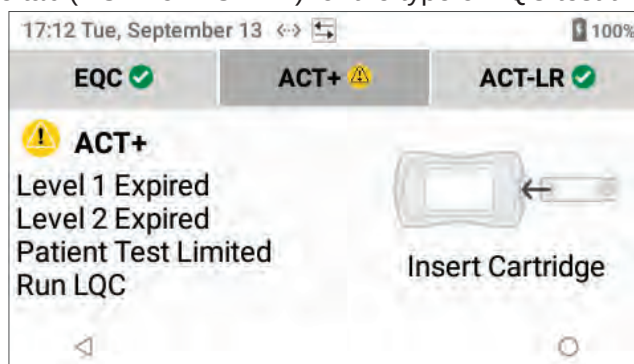

Figure 68: LQC Testing is Allowed
- 2 Select the appropriate tab (**ACT+** or **ACT-LR**) for the type of LQC test that needs to be run (Figure 68).